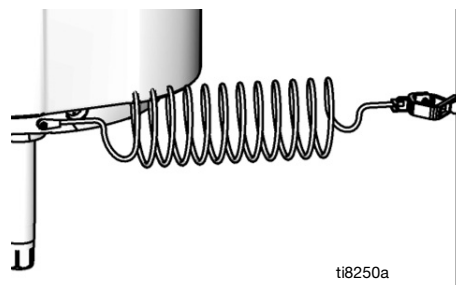

FIG. 7
**Pump:** use a ground wire and clamp. Loosen grounding lug locknut and washer. Insert one end of supplied ground wire into slot in lug and tighten locknut securely. Connect other end of wire to a true earth ground. See FIG. 7.